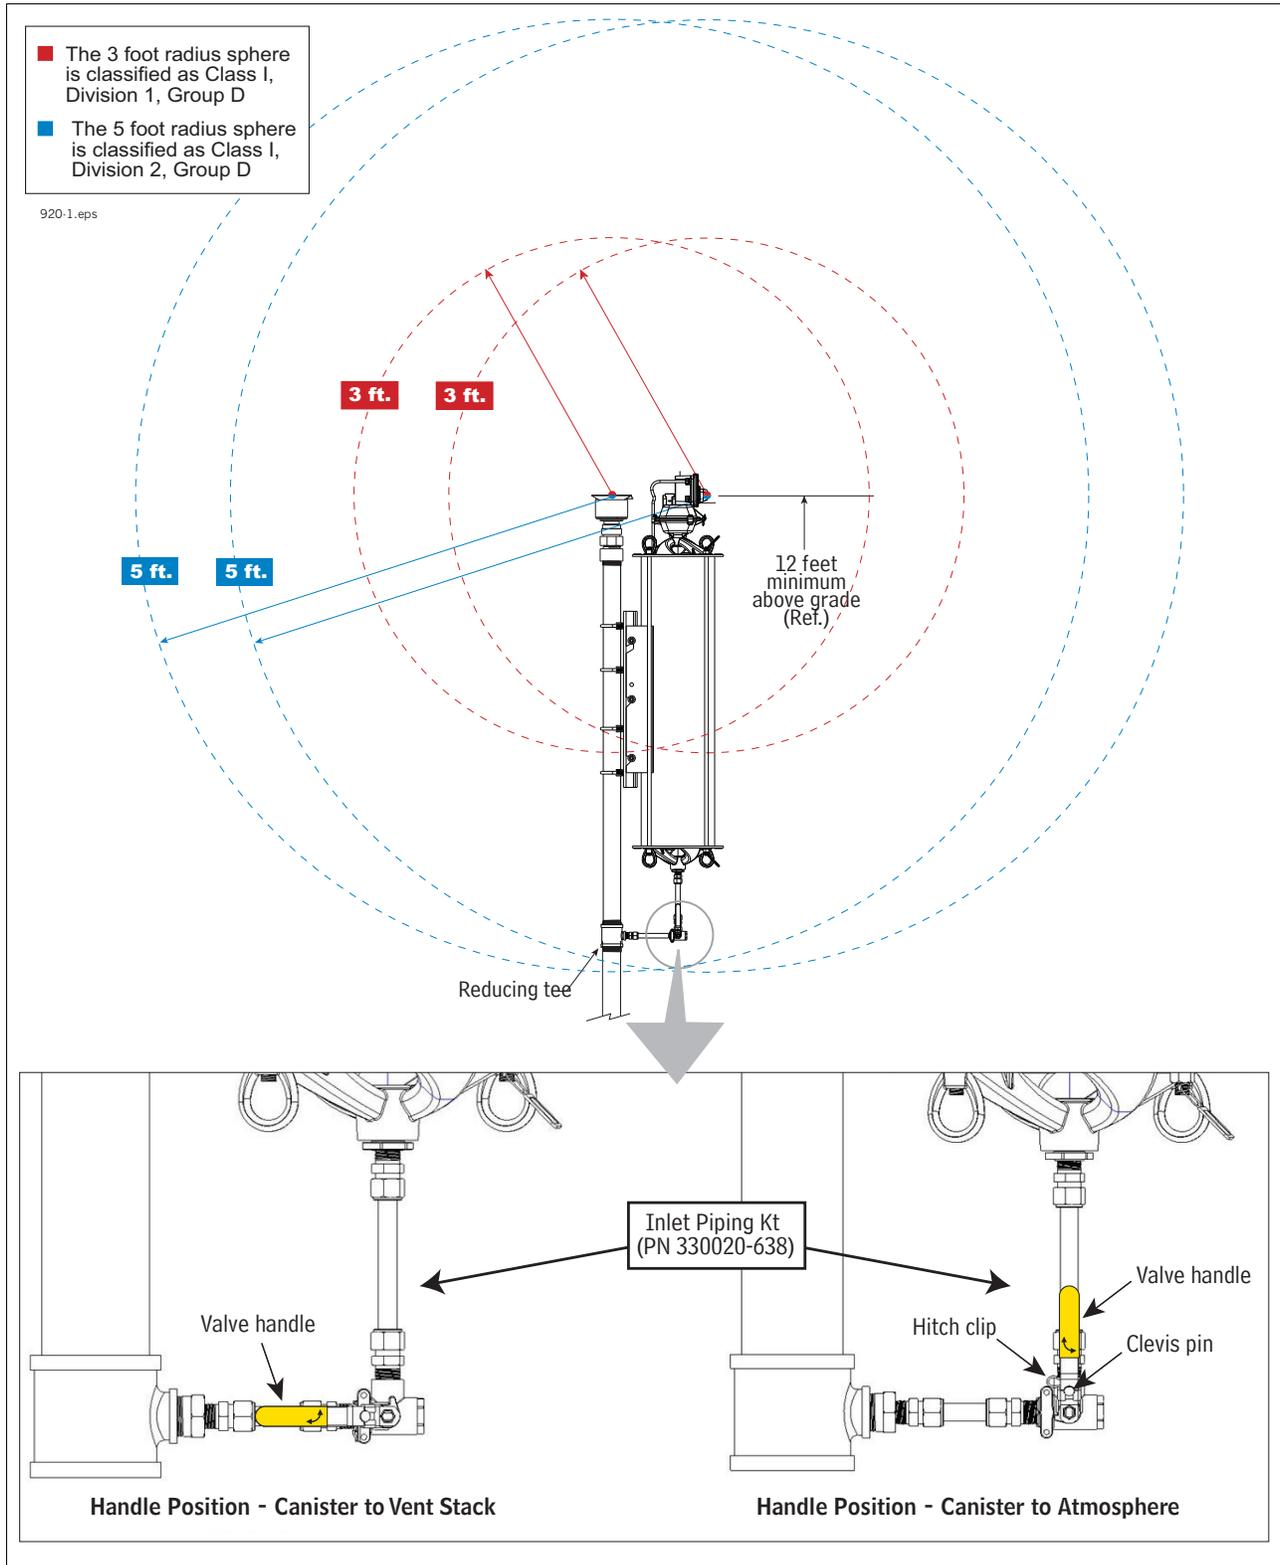

Figure 3. Inlet plumbing detail and classified area definition
8. Figure 3 shows important Class I Div 1, Group D and Class I Div 2, Group D radius spheres and operability test valve handle positions of the installed canister.
15. Confirm ball valve is in the open, canister to vent pipe position (per Figure 3), then insert the clevis pin and secure with the hitch pin.